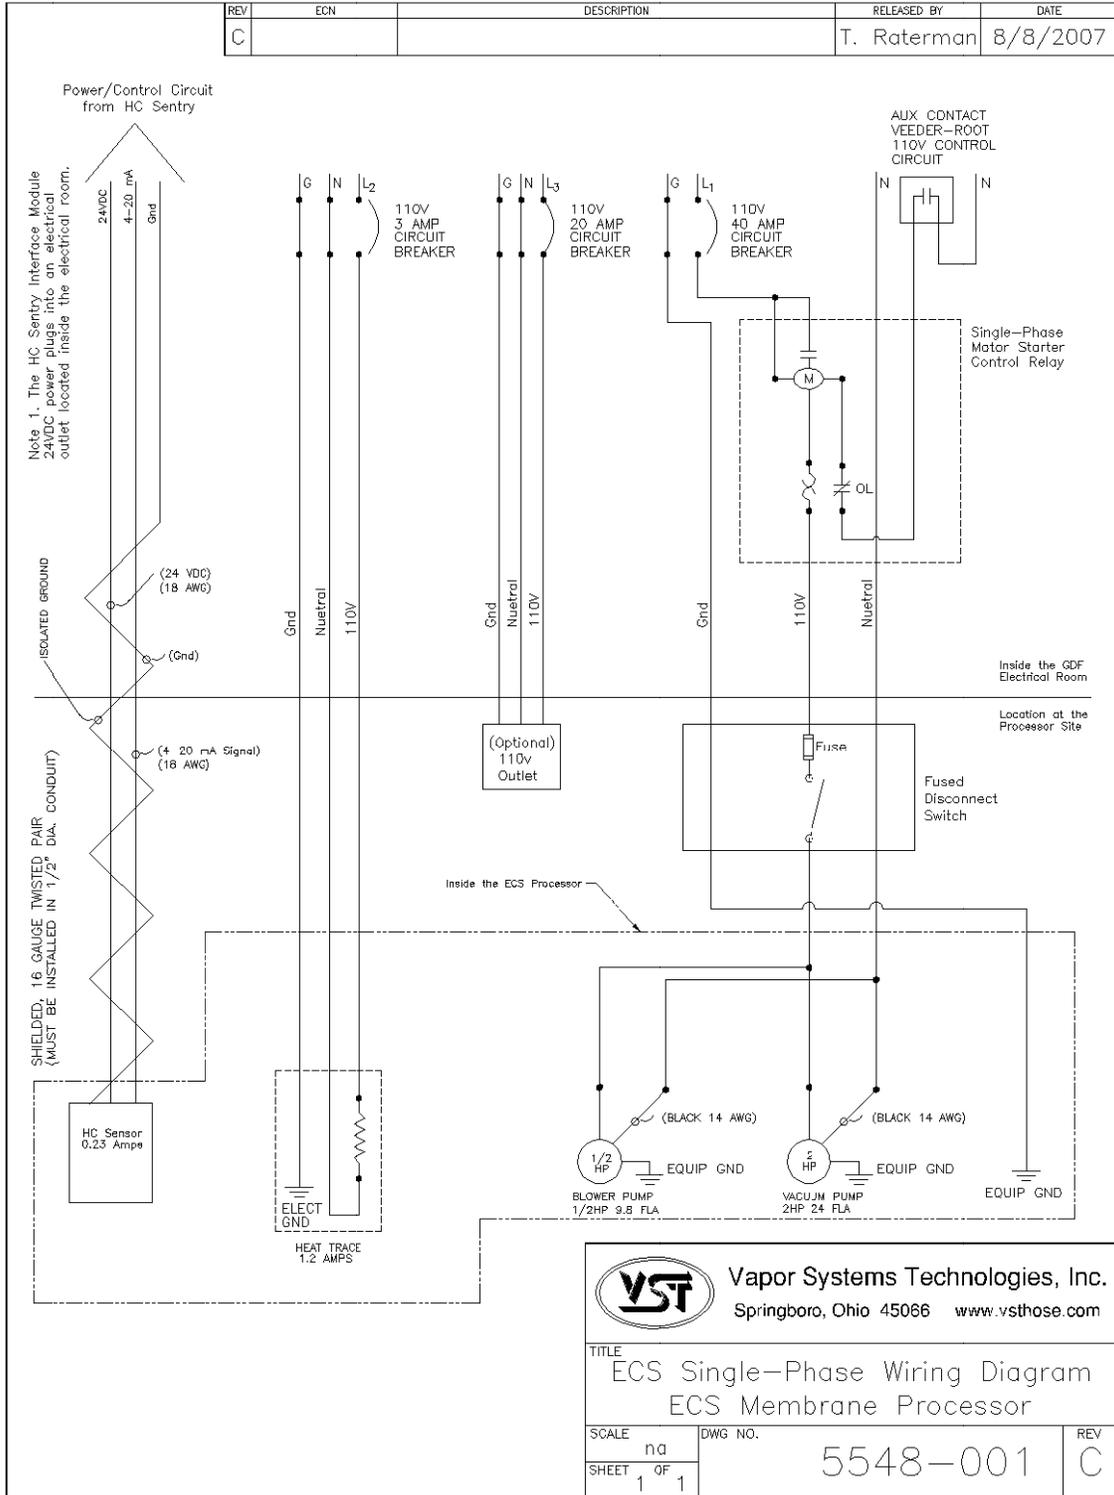

Figure 19: Processor Single-Phase Wiring Diagram
- ▶ **See Figure 19: Section 14 / Page 58.**